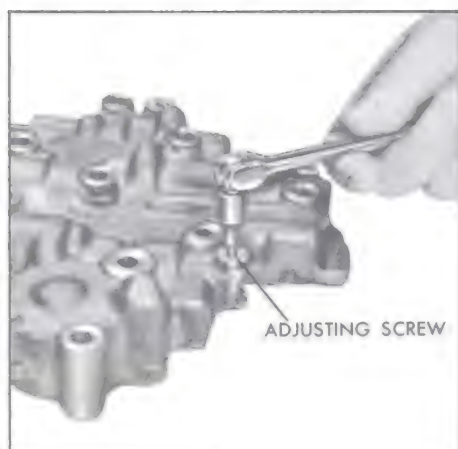

Figure 5-576
3. Install bore plug over spring, compress bore plug, and tighten adjusting screw EXACTLY FOUR TURNS. See Figure 5-576.